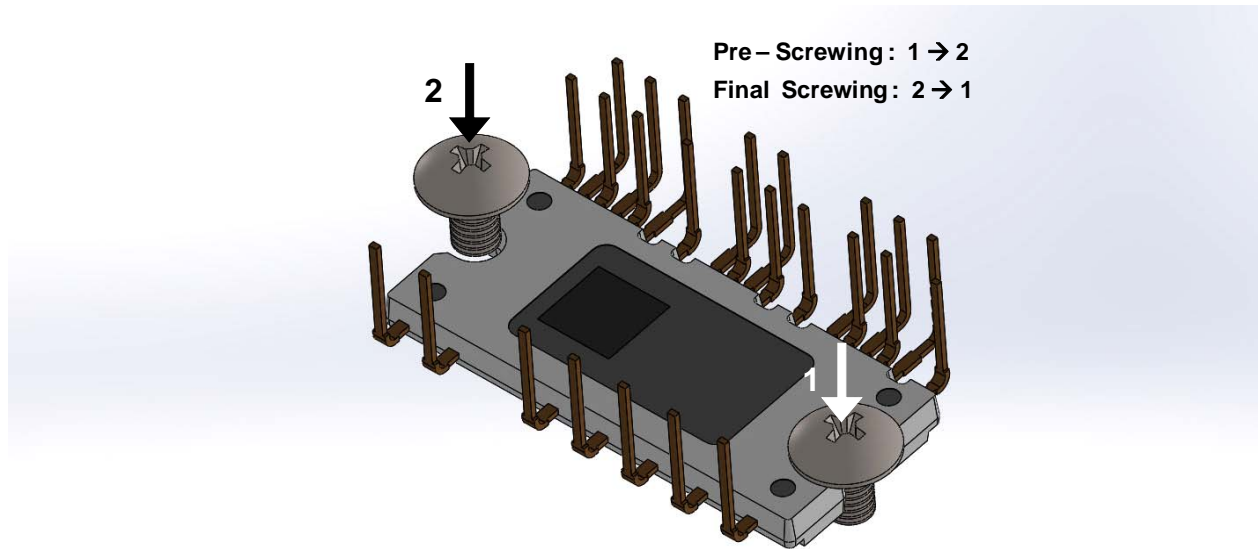

Figure 10. Mounting Screws Torque Order
| Mounting Torque | Mounting Screw: - M3 See Figure 10 | Recommended 0.7 N • m | 0.6 | 0.7 | 0.8 | N • m |
10. Avoid one side tightening stress. Figure 10 shows the recommended torque order for mounting screws. Uneven mounting can cause of package to be damaged.